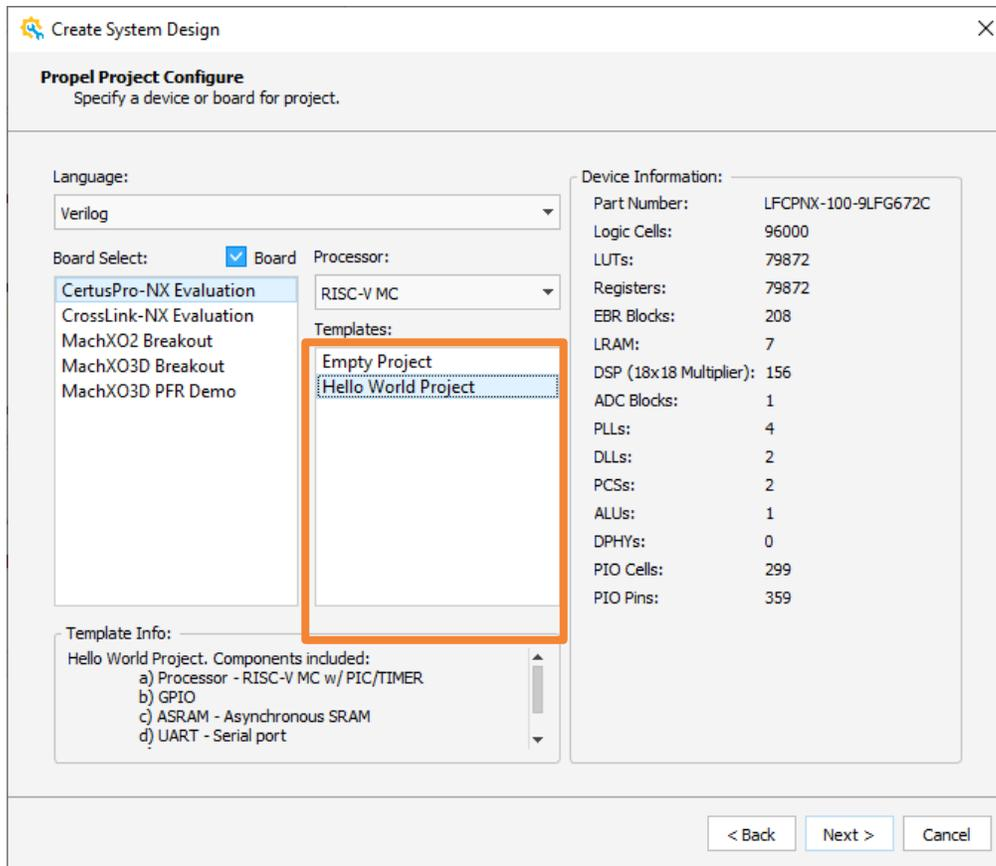

Figure 2.9. Specify a Board for Project
7. Select a desired template from the **Templates** area, such as Hello World Project (Figure 2.9).